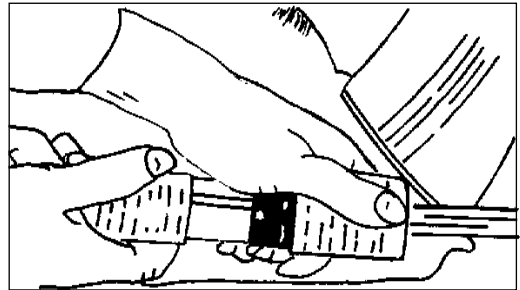

Figure 5
2. Make sure the control switch is in the “Off” position then connect the supply cable to an appropriately grounded fused circuit. Connect the supply cable to the motor pigtail. (Figure 5)